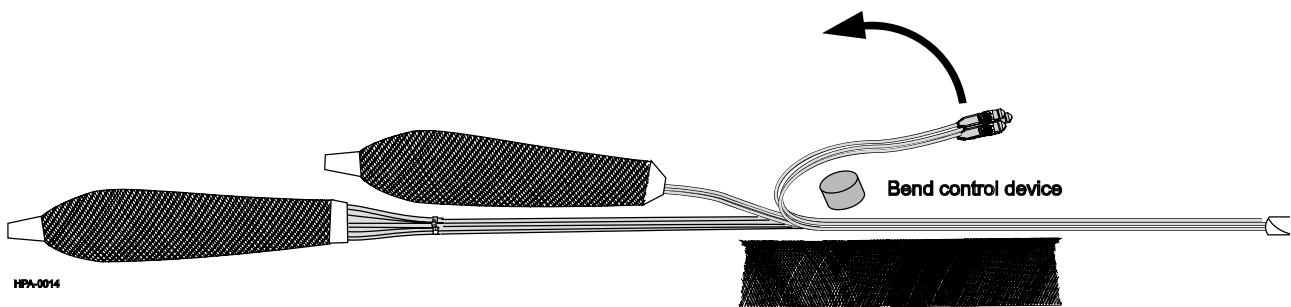

Figure 10 — Mesh Bag Removal
- Step 8: Starting with the mesh bag closest to the furcation body, remove the tape and mesh to expose the first set of three folded legs (Figure 10). If applicable, unfold the legs from around the bend control device.